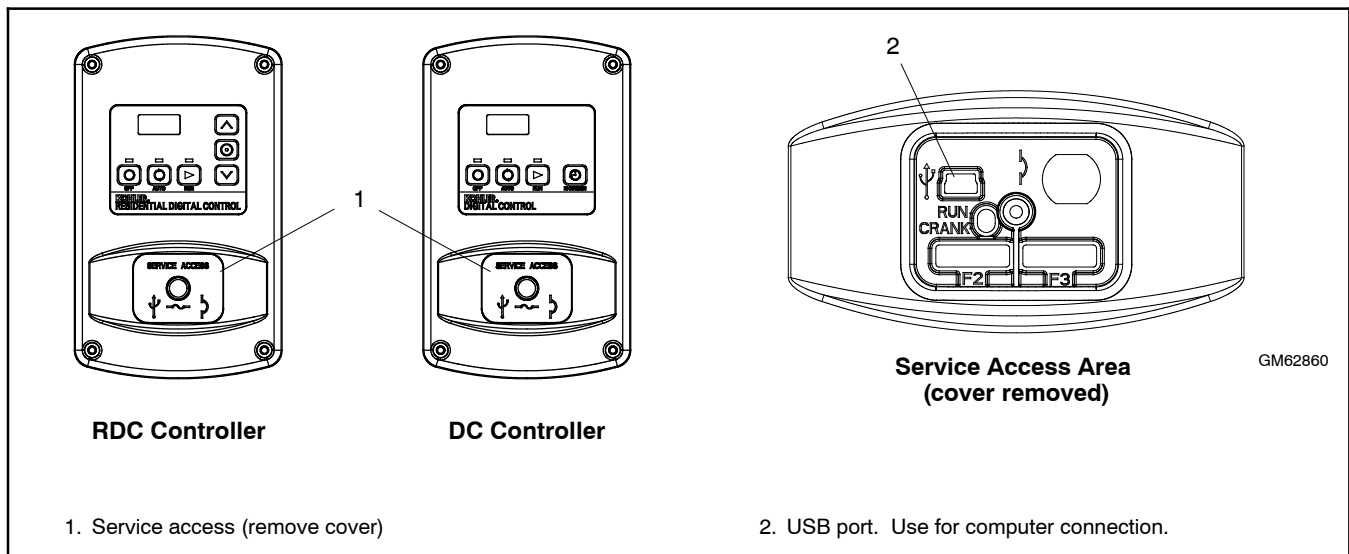

Figure 10-1 RDC and DC Controller Connection
Remove the service access cover from the controller. See Figure 10-1. Use a USB cable with a mini-B connector to connect the controller to your personal computer (PC). See Section 1.3 for USB cable details.